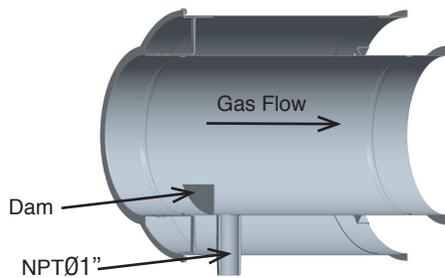

Figure 12 - Horizontal Drain Length
1. Horizontal Drain length is equipped with a 1" (25) NPT nipple, which is attached to the inner flue and extends through the outer casing to provide a path to drain grease, condensate or wash water from the duct. See **Figure 12**.